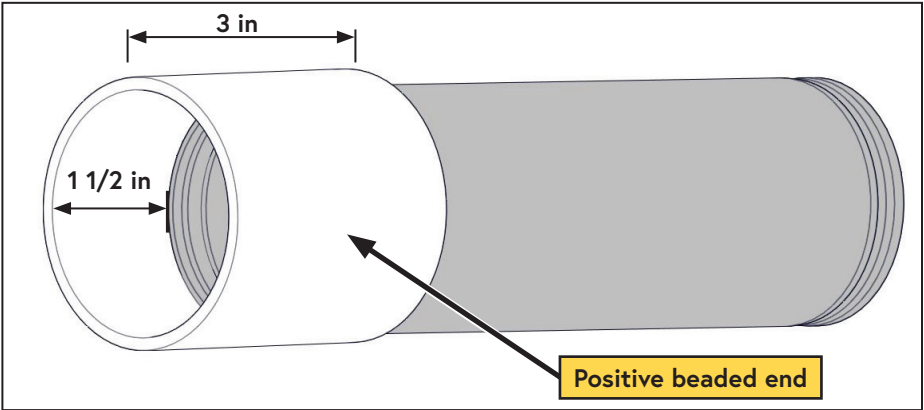

Figure 99 — Installing the CAC hoses
- ☐ Install the supplied (x3) 1 in hose (2 1/2 in ID) silicone hose onto the VMAC supplied "hot" CAC tube and secure with a VMAC supplied hose clamp. Ensure the tube is inserted 1 1/2 in into the silicone hose (Figure 99).